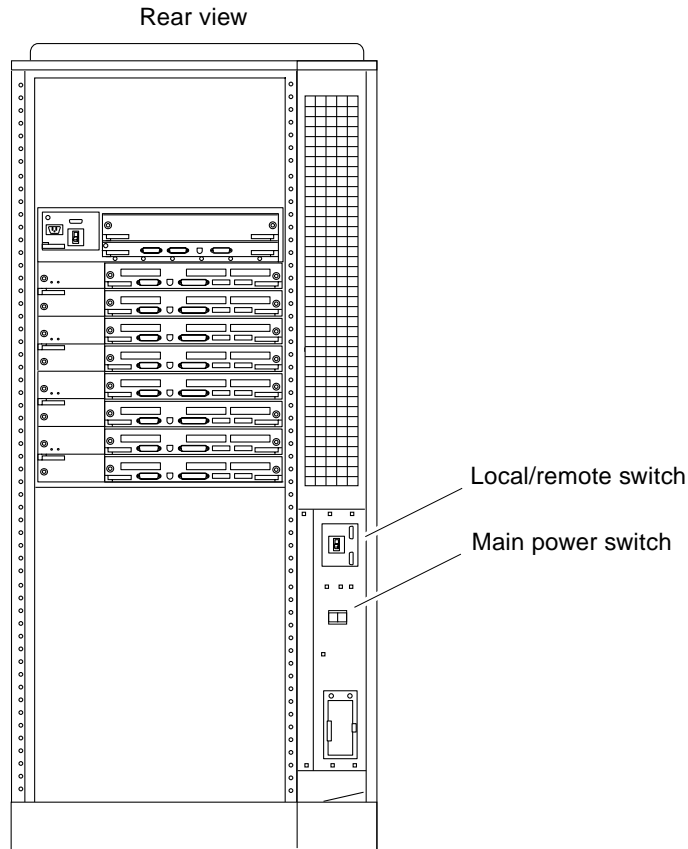
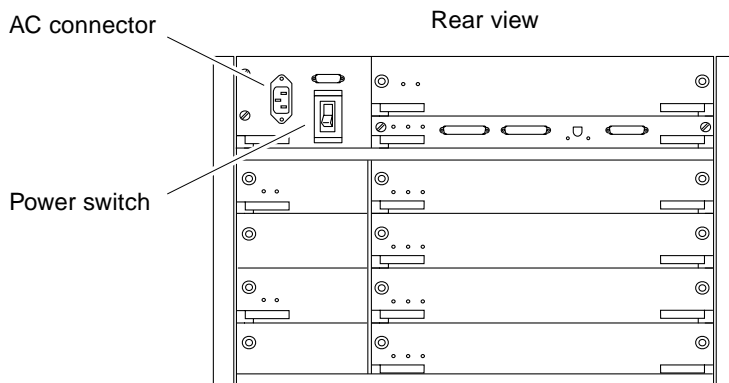

FIGURE 11-2 AC Power Switch (Enterprise 6500 and 5500)
FIGURE 11-4 AC Power Switch (Enterprise 4500)
7. **Turn the main power switch (FIGURE 11-2) to Off.**
6. Turn the AC power switch on the system rear off (FIGURE 11-4).
2. **Enterprise 6500/5500 systems only: turn the Local/Remote switch down, to Local (FIGURE 11-2).**
3. **Turn on the AC main power switch (FIGURE 11-2 or FIGURE 11-4).**